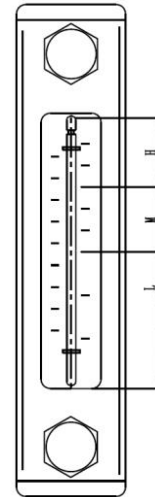

Figure 1-5 Hydraulic oil gauge
- Check the oil scale on the hydraulic oil tank. The oil level should be within M as shown in Fig. 1-5. When the oil level is lower than L, the hydraulic oil needs to be added. Select the hydraulic oil grade according to the temperature.